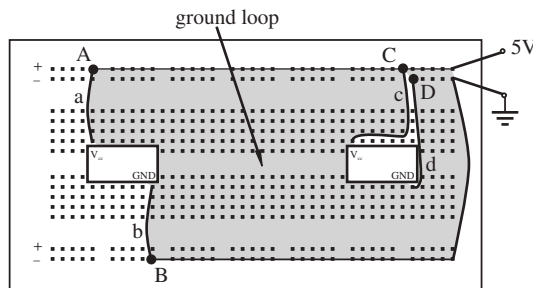

Figure 2.50 Ground loop.
- Minimize inductive coupling and multiple-point grounding issues caused by **ground loops**. When the distance between multiple ground points is large, noise can be inductively coupled to the circuit through the conducting loops created by the multiple ground points. Figure 2.50 illustrates how you should be careful to not create large ground loops when wiring a circuit on a breadboard. Both circuits shown are providing power (5V and ground) to an integrated circuit. The wiring on the left, connected at points *A* and *B* via wires *a* and *b* creates a large ground loop area which can pick up induced voltages in the presence of fluctuating magnetic fields, as described above. The wiring on the right, connected to points *C* and *D* via wires *c* and *d* creates very little area in the resulting circuit; therefore, very little induced voltage will occur even in the presence of external fields.